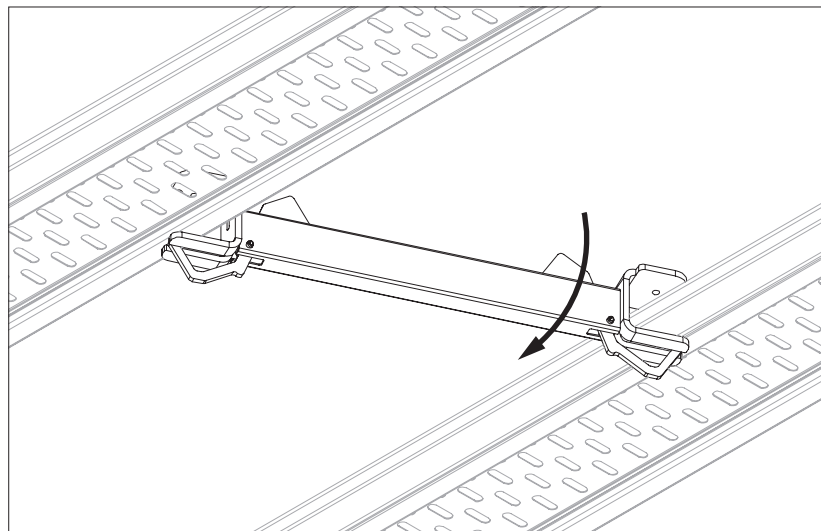

Fig. A7.04b
3. At the intended position, lift the deck traverse into the deck gap diagonally from below and swing it in at right angles onto the adjacent decks. (Fig. A7.04b)